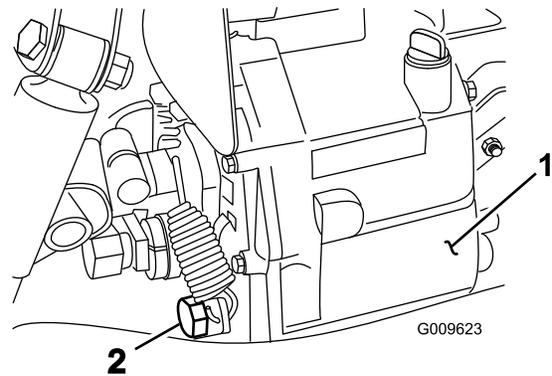

Figure 63
2. Remove the drain plug from the side of the reservoir and let the hydraulic fluid flow into a drain pan (Figure 63).